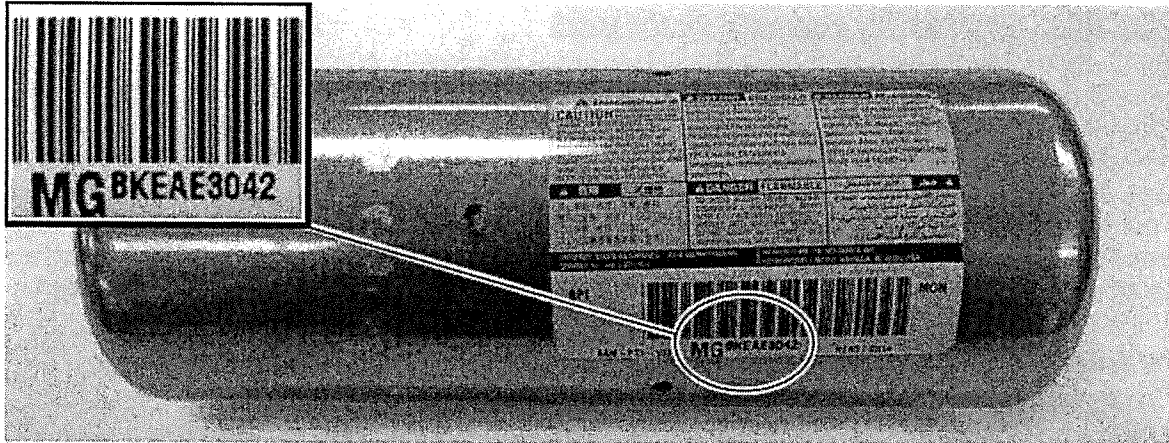

FIGURE 2
2. Document the deployed airbag inflator serial number(s) on the RO (Reference Figure 1 for the driver side and Figure 2 for the passenger side).